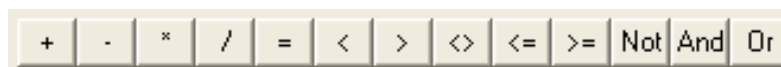

Figure 34 - Operators Buttons
13. The **Operators** buttons (Figure 34) allow you to enter an operation descriptor based on the selected button.